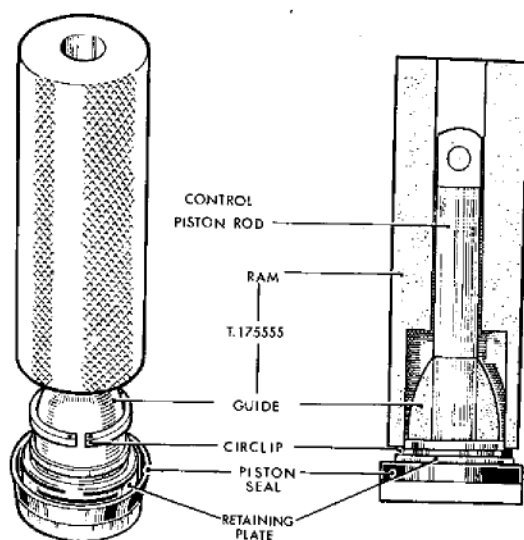

Fig. 7. Fitting the control piston circlip
61. Fit a new seal and the retaining plate to the piston head. Fit the circlip and press into position, using the tool T 175555, fig. 7.